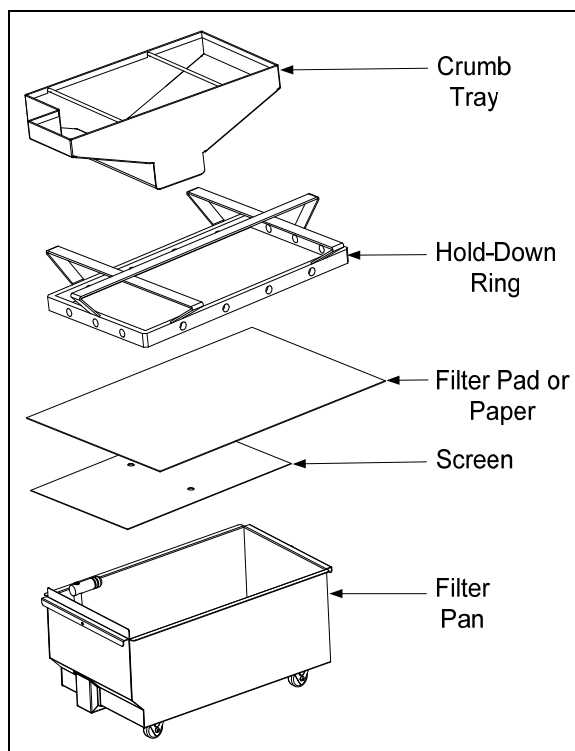

Figure 9
1. Pull the filter pan out from the cabinet and remove the crumb tray, hold-down ring, filter paper and filter screen (see Figure 9). Clean all components with a solution of detergent and hot water then dry thoroughly.